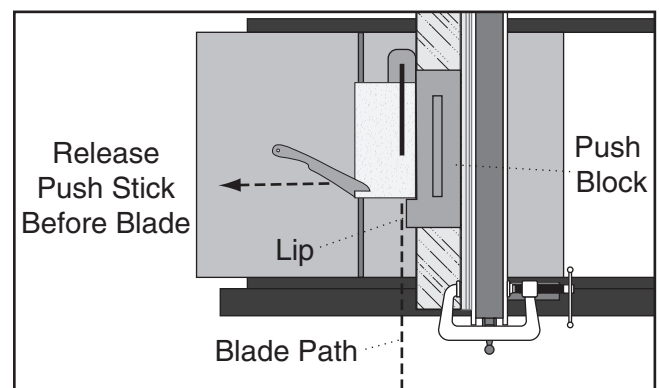

Figure 89. Ripping with push block.
6. Guide the workpiece the rest of the way through the cut with the push block, as shown in **Figure 89**.